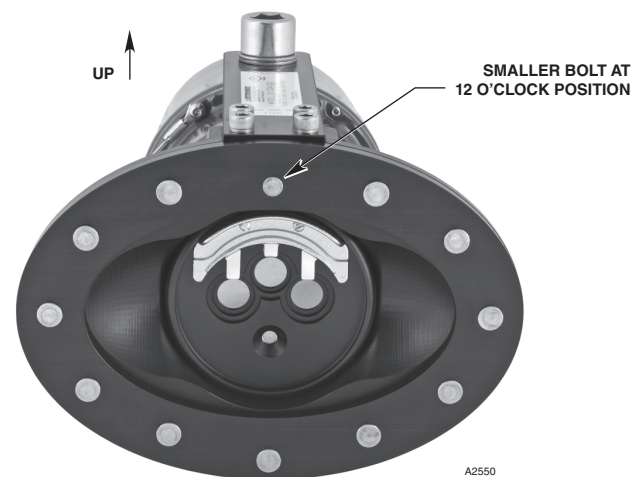

Figure 1—Correct Orientation of X3301 Detector Faceplate
1. Determine the proper location for mounting the detector. For proper detector orientation, refer to Figure 1.